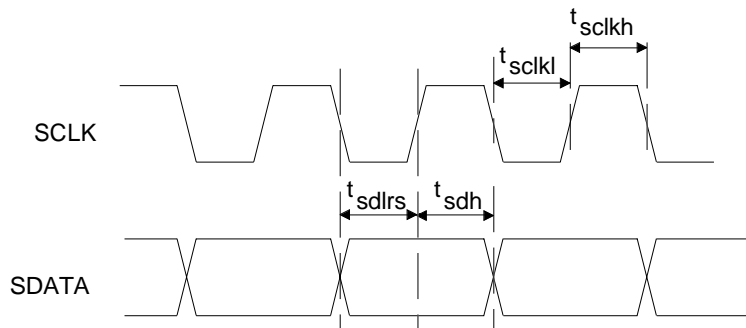

**Figure 1. Serial Mode Input Timing**
19. Valid with the recommended capacitor values on FILT+ and CMOUT as shown in Figure 1. Increasing the capacitance will also increase the PSRR.